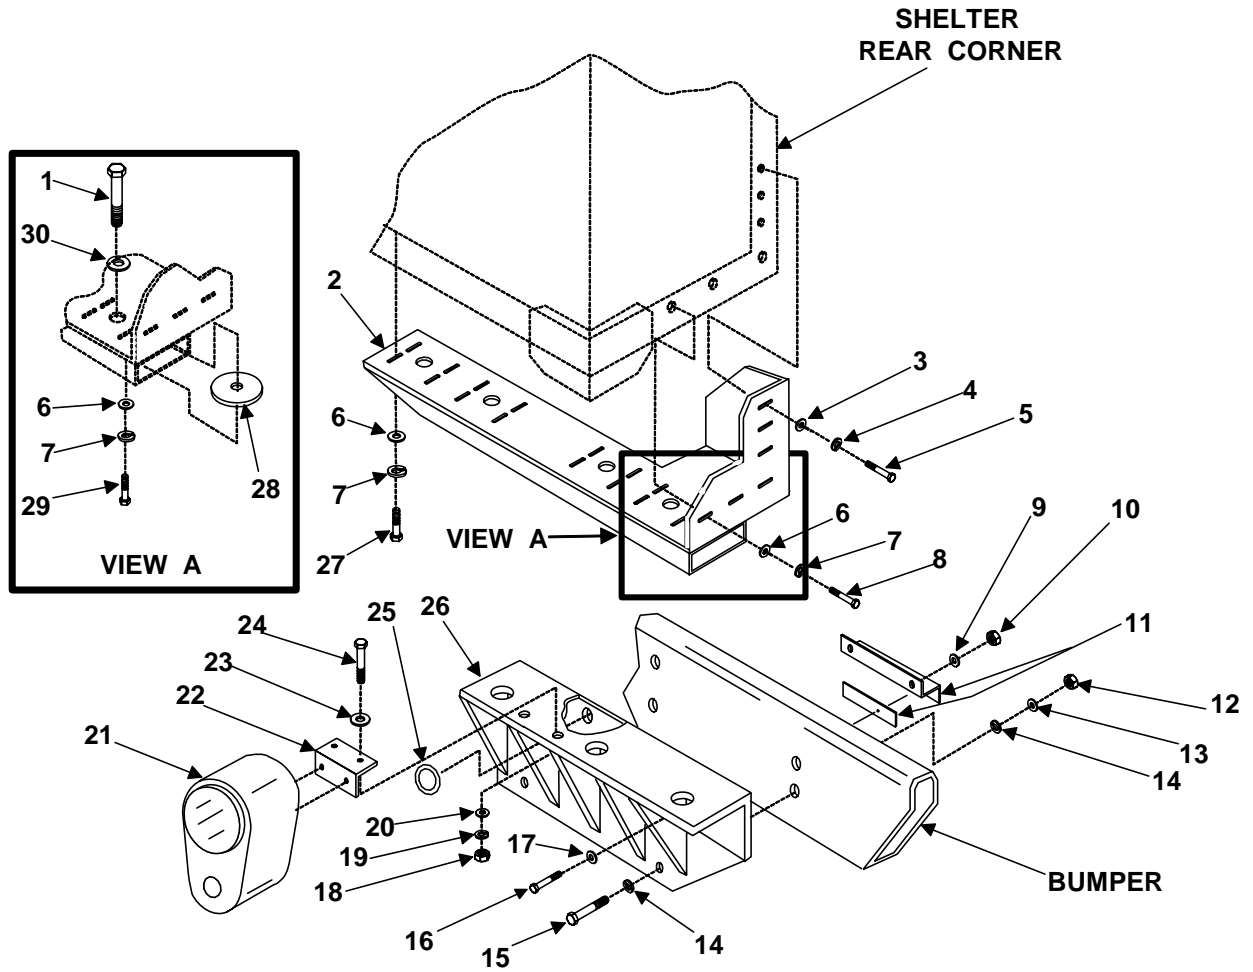

Figure 4. Rear Shelter Preparation.
Steps 1 through 8 will refer to Figure 4. Rear Shelter Preparation.
1. Secure clamping bracket and shim (figure 4, item 11) to rear mounting bracket (figure 4, item 26) using screw (figure 4, item 16), flat washer (figure 4, item 17), lock washer (figure 4, item 9), and nut (figure 4, item 10). Do not tighten.
2. Remove nuts (figure 4, item 12), bolts (figure 4, item 15), lock washers (figure 4, item 13), and flat washers (figure 4, item 14) securing curbside rear bumper to vehicle frame. Retain nuts (figure 4, item 12), lock washers (figure 4, item 13), and flat washers (figure 4, item 14).
3. Position and secure rear mounting bracket (figure 4, item 26) to rear bumper using (new) longer bolts (figure 4, item 15) and flat washers (figure 4, item 14), lock washers (figure 4, item 13) and nuts (figure 4, item 12). Do not tighten bolts.
4. Locate tail light mounting bracket (figure 4, item 22) with tail light (figure 4, item 21) on rear mounting bracket (figure 4, item 26). Insert screw (figure 4, item 24) with flat washers (figure 4, item 23) and secure with flat washers (figure 4, item 20), lock washer (figure 4, item 19), and nut (figure 4, item 18).
5. Insert tail light wiring connectors through hole in rear mounting bracket (figure 4, item 26), across top of rear bumper and reconnect to vehicle wiring harness. Install grommet (figure 4, item 25) in hole in rear mounting bracket (figure 4, item 26)
6. On the bottom of the shelter, remove all paint and sealer from any rivet head that may come into contact with rear mounting adapter (figure 4, item 2). Remove any bolts/plugs from the bottom rear surface of the shelter.
7. Insert an isolator mounting screw (figure 4, item 1), flat washer (figure 4, item 30), and isolator mount washers (figure 4, item 28) down through each round opening in the rear mounting adapter (figure 4, item 2).
8. Position and secure rear mounting adapter (figure 4, item 2) to shelter using screws (figure 4, items 5, 8, 27, and 29), flat washers (figure 4, items 3 and 6), and lock washers (figure 4, items 4 and 7). Do not tighten.